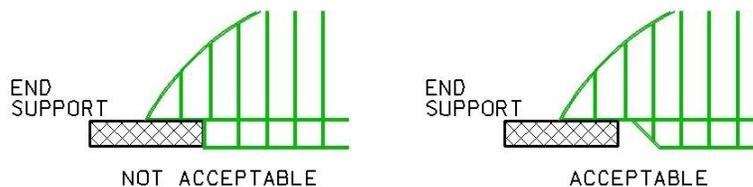

Figure 5: Use of End Support
Bridge support requirements are outlined as follows and shown in Figure 5.
- The support for the bridge shall be from the top of the level surfaces of the end supports only. The vertical edge of the supports shall not be used as a support in any way (refer to Figure 5)